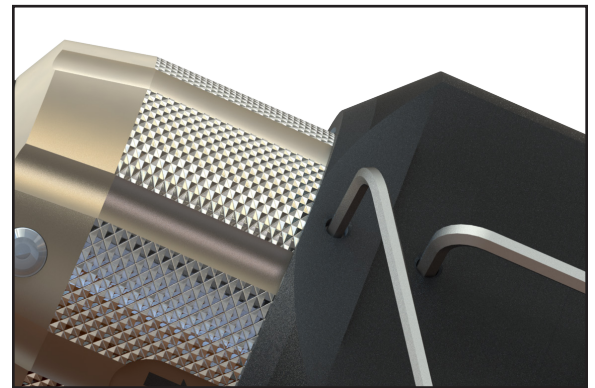

Figure 2: *Insert Small Allen Wrench*
3. Insert the short end of a 0.050" Allen wrench through the hole and into the set screw, as shown in Figure 2.